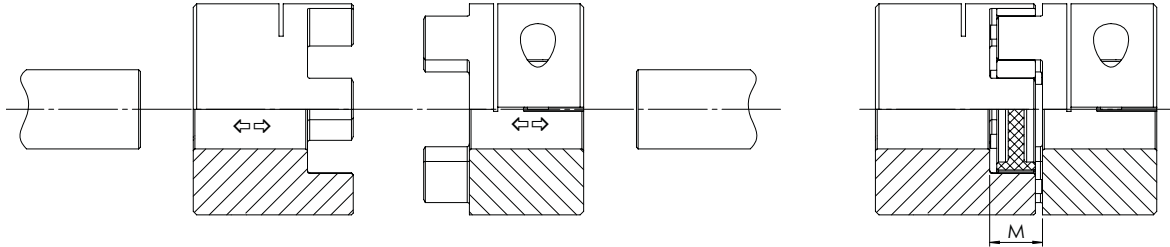

Figure 4-4 - TRASCO® ES: GESM - GESMC mounting
- Install the hubs on the driving and driven shafts (see FIGURE 4-4)